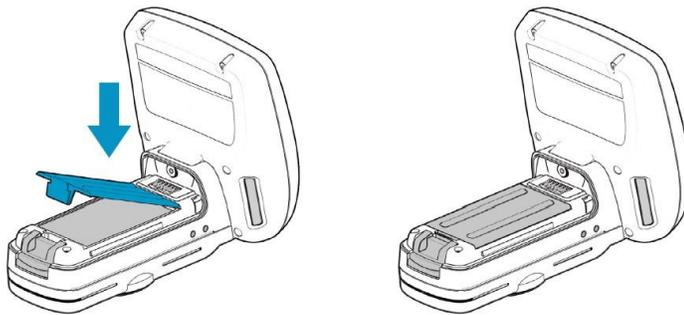

Figure 9 Replace Battery Door
4. Replace the battery cover until it latches (Figure 9).